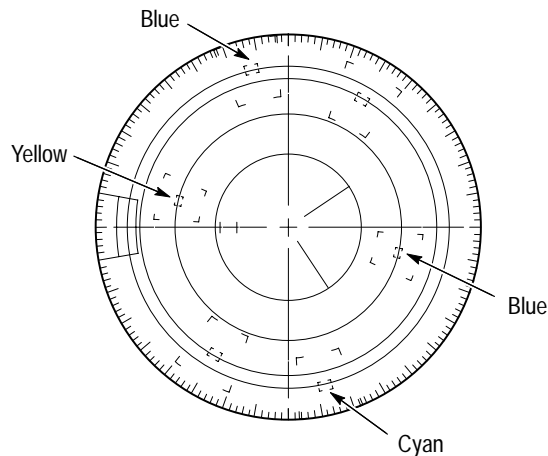

Figure 5–1: NTSC graticule showing the vector gain adjustment
- c. Adjust the **▲** and **▼** **buttons** so that the vector dots land in the center of the red and cyan graticule target boxes. See Figure 5–1.
- d. Adjust the **◀** and **▶** **buttons** so that the vector dots land in the center of the yellow and blue graticule target boxes. See Figure 5–1.